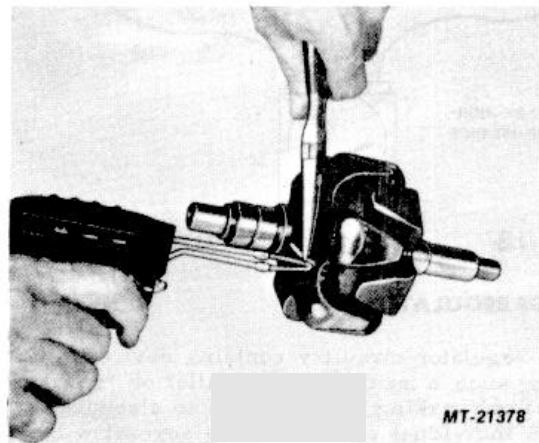

FIG. 23
1. Unsolder the slip ring leads and lift them clear of the eyelets which serve to retain them to the rotor coil leads. Do not lose or damage the eyelets (see Fig. 23).